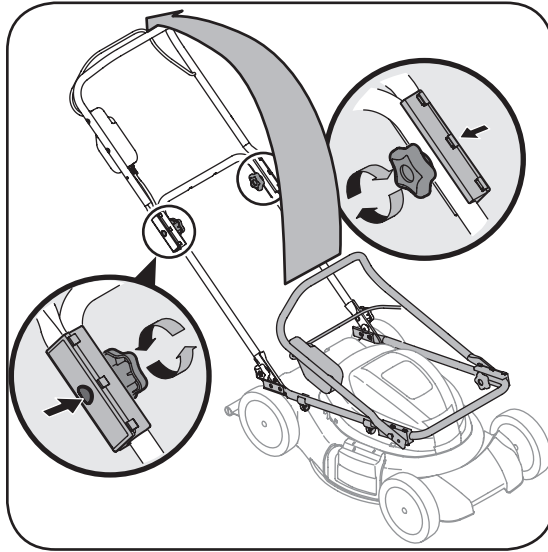

Figure 3-1: Unfold handle and tighten hardware.
- b. Gently lift and pivot the upper handle into the operating position as shown in Figure 3-1.